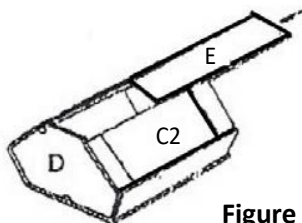

Figure 6
**5. Installing the Back Panel (Figure 6):** Slide the back panel (E) into grooves of rear side panels (C1 & C2) Make sure the finished side of panel is towards the inside of the cabinet. Once the back panel is assigned and fitted tight, secure it with 1" Back Panel Screws (c) into the pre-drilled holes on the back panel (Figure 7).